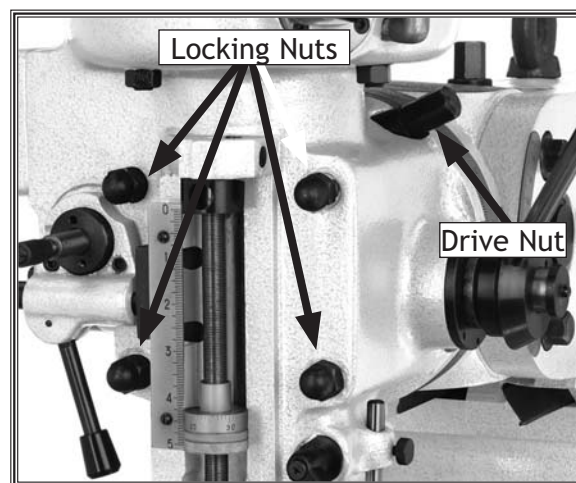
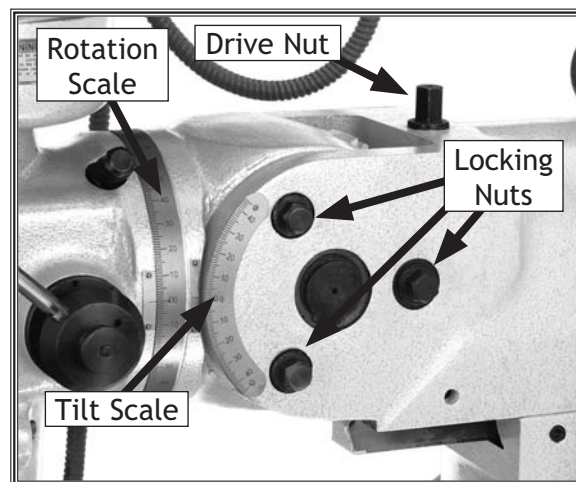

Figure 21. Controls for rotating spindle head.
Figure 22. Controls for tilting spindle head.
2. Use a 19mm wrench to loosen the four nuts that lock the spindle in place (see **Figure 21**).
3. Rotate the drive nut (**Figure 21**) until the spindle is rotated to the desired angle, as displayed on the rotation scale shown in **Figure 22**.
2. Use a 19mm wrench to loosen the three locking nuts shown in **Figure 22**.
3. Rotate the drive nut indicated in **Figure 22**, until the spindle is tilted to the desired angle, as displayed on the tilt scale shown in **Figure 22**.